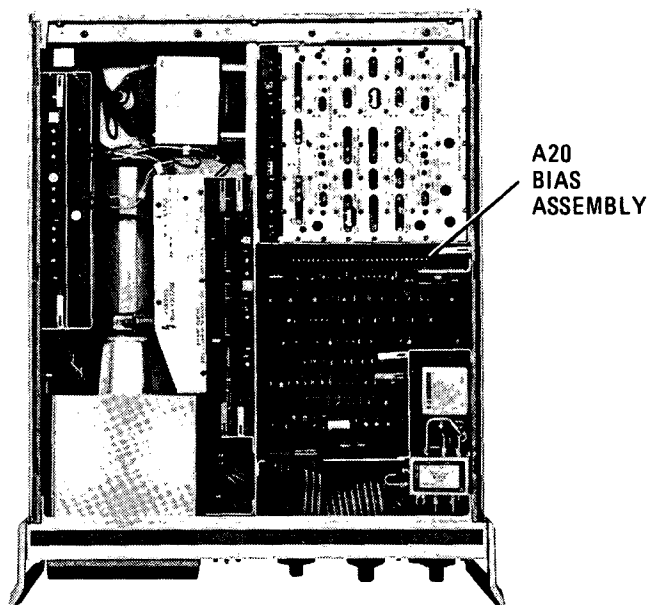

Figure 5-47. Preliminary Bias Adjustment Locations
- Set AMPLITUDE SCALE to 2 dB. Adjust A20R85 V4 (Figure 5-47) over full range and note position for minimum ripple on CRT trace. Set A20R85 V4 for minimum ripple.